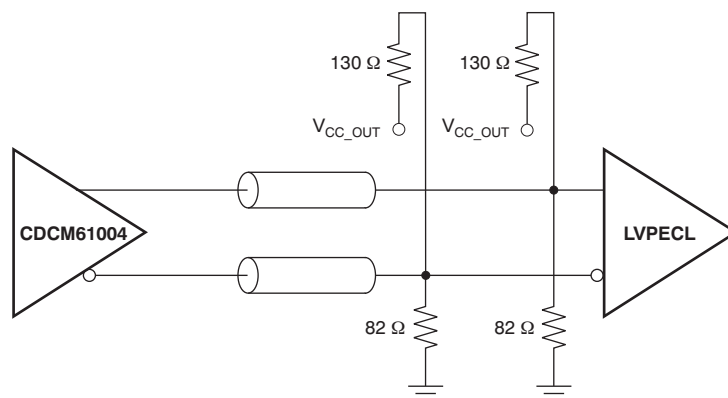
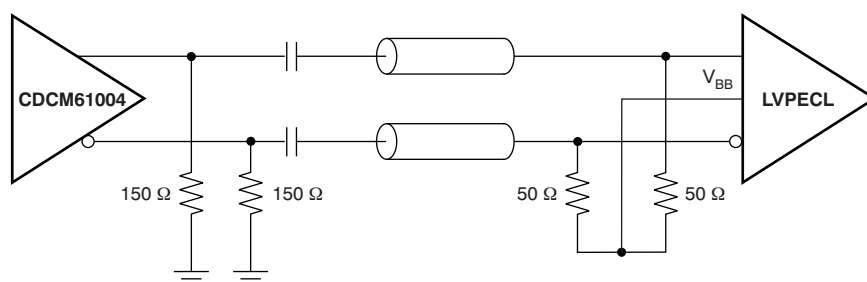

Figure 17. LVPECL Output DC Termination
Figure 18. LVPECL Output AC Termination
The CDCM61004 is an open emitter for LVPECL outputs. Therefore, proper biasing and termination are required to ensure correct operation of the device and to minimize signal integrity. The proper termination for LVPECL is $50\ \Omega$ to $(V_{CC}-2)\text{ V}$, but this DC voltage is not readily available on most PCBs. Thus, a Thevenin equivalent circuit is worked out for the LVPECL termination in both direct-coupled (DC) and ac-coupled (AC) cases, as shown in Figure 17 and Figure 18. TI recommends placing all resistive components close to either the driver end or the receiver end. If the supply voltage of the driver and receiver are different, ac-coupling is required.